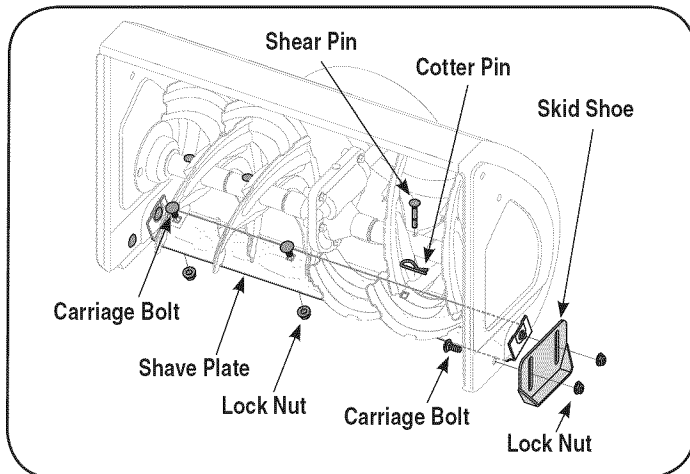

Figure 15
1. To replace, remove two carriage bolts and nuts securing each skid shoe to the auger housing. See Figure 15.
3. To remove shave plate: Remove both skid shoes and hardware including carriage bolts and nuts which attach shave plate to the snow thrower housing. For location of shave plate, see Figure 15.
The auger is secured to the spiral shaft with four shear pins and cotter pins. If you hit a foreign object or ice jam, the snow thrower is designed so that the pins may shear. Refer to Figure 15.